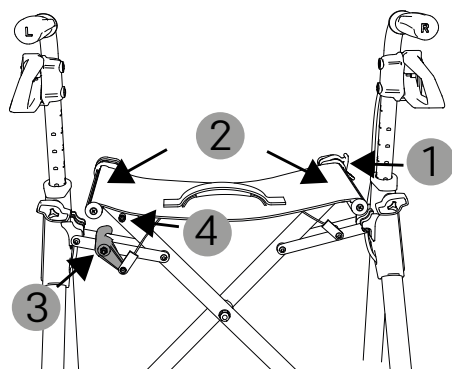

Fig. 2
2. If necessary, the folding lock hook (1, Fig. 2) must be loosened (see section "Folding and unfolding your rollator").
3. Push the side tubes of the seat apart and down (2, Fig. 2) until the rollator has unfolded completely and the seat cover is tensioned.
4. Now the folding lock (3, Fig. 2) can be heard to engage in the pin (4, Fig. 2) provided for this purpose underneath the seat cover and the rollator is correctly unfolded.